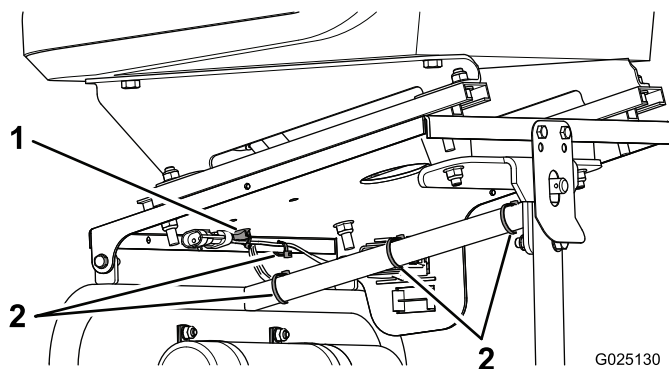

Figure 11
9. Install the push mount in the hole in the underside of the seat pan (Figure 11).
10. Use the cable ties to secure the wires to the seat-support strut and the front of the seat pan (Figure 11).